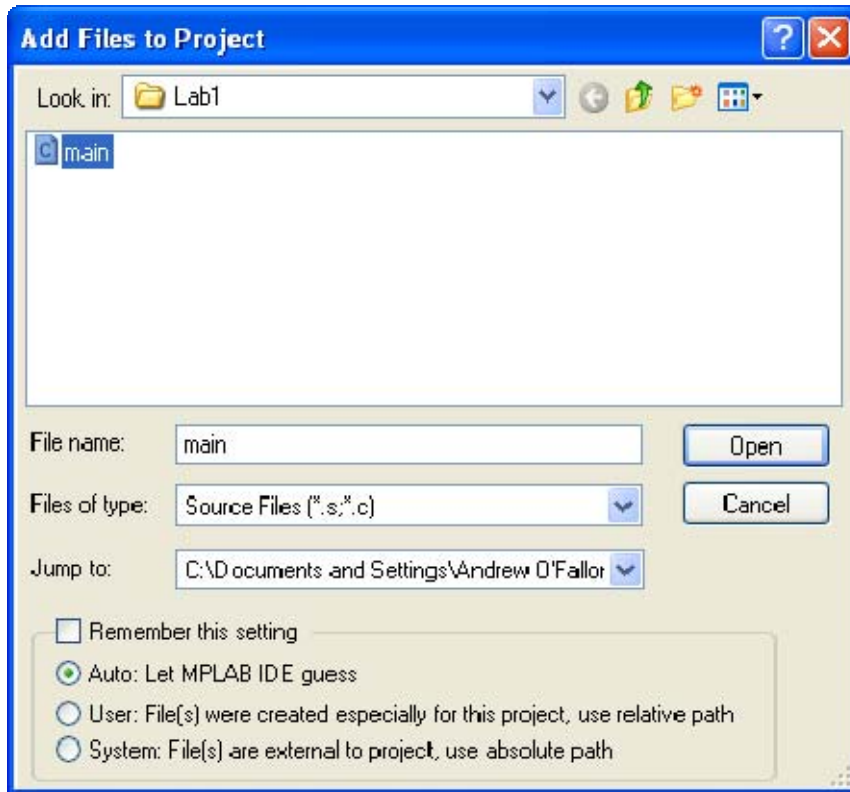

Figure 18: Selecting a File
Step 14: Select your .c file from the possible files listed (Figure 18). In this case "main.c" and click "Open".